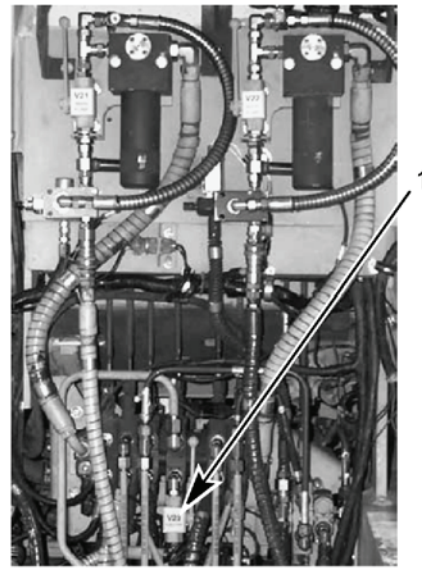

Figure 13. DCV Bank
- Manually close the ejector inhibit ball valve V23 (Figure 13, item 1) on the DCV bank.